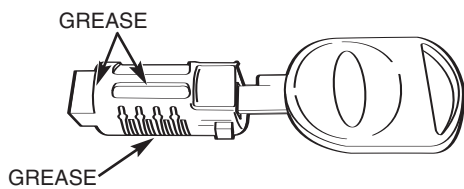

**FIGURE 4**
2. Select the required tumblers (B) according to the key cut depths, for key stations 1, 3, 4, 5, 6, 7, and 8. For example, if the key cut depths codes are 53214124, then use B5 for Station 1, use B3 for Station 3, B2 for Station 4, B1 for Station 5, B4 for Station 6, and B1 for Station 7, etc. and ignore Station 2.
3. Apply grease to the actuator pocket located in the head of cylinder (D) (refer to Figure 4).